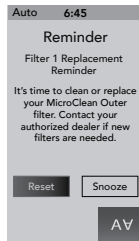

Figure 15.0d
23. MicroClean Outer Filter Reminder: This message will appear when the filter reminder time has expired (Figure 15.0d). Remove the MicroClean Outer filters for cleaning or replacement.